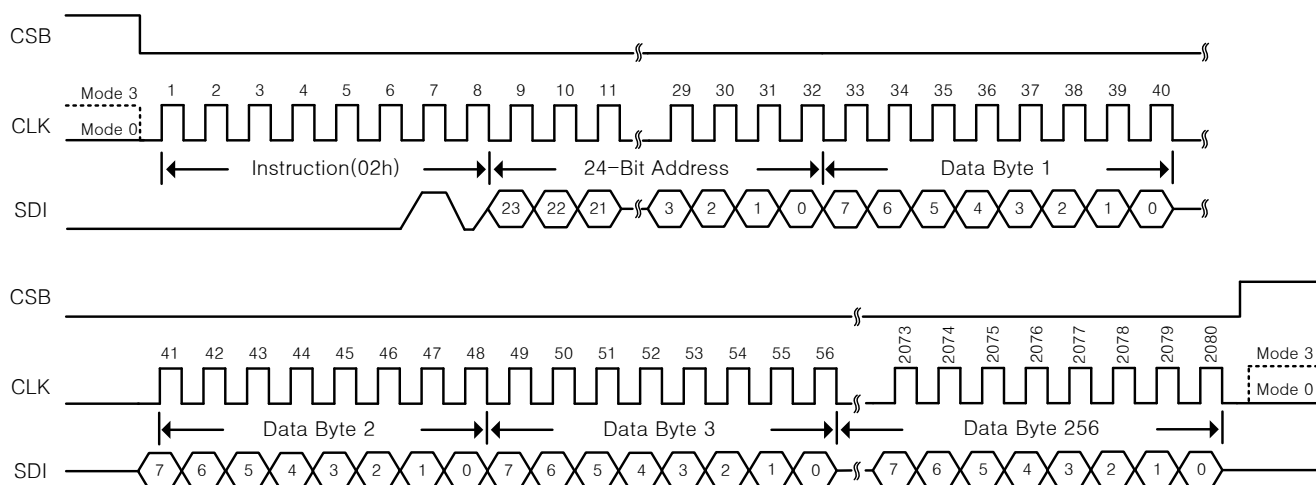

Figure 3. Page Program Instruction Sequence Diagram
- Flash page program operation(Refer to figure3 on 12page.)
The instruction sequence is shown in Figure 3. If more than 256bytes are sent to the device, previously latched data are discarded and the last 256 data bytes guaranteed to be programmed correctly within the same page. If less than 256 Data byte are sent to device, they are correctly programmed at the requested addresses without having any effects on the other bytes of the same page.